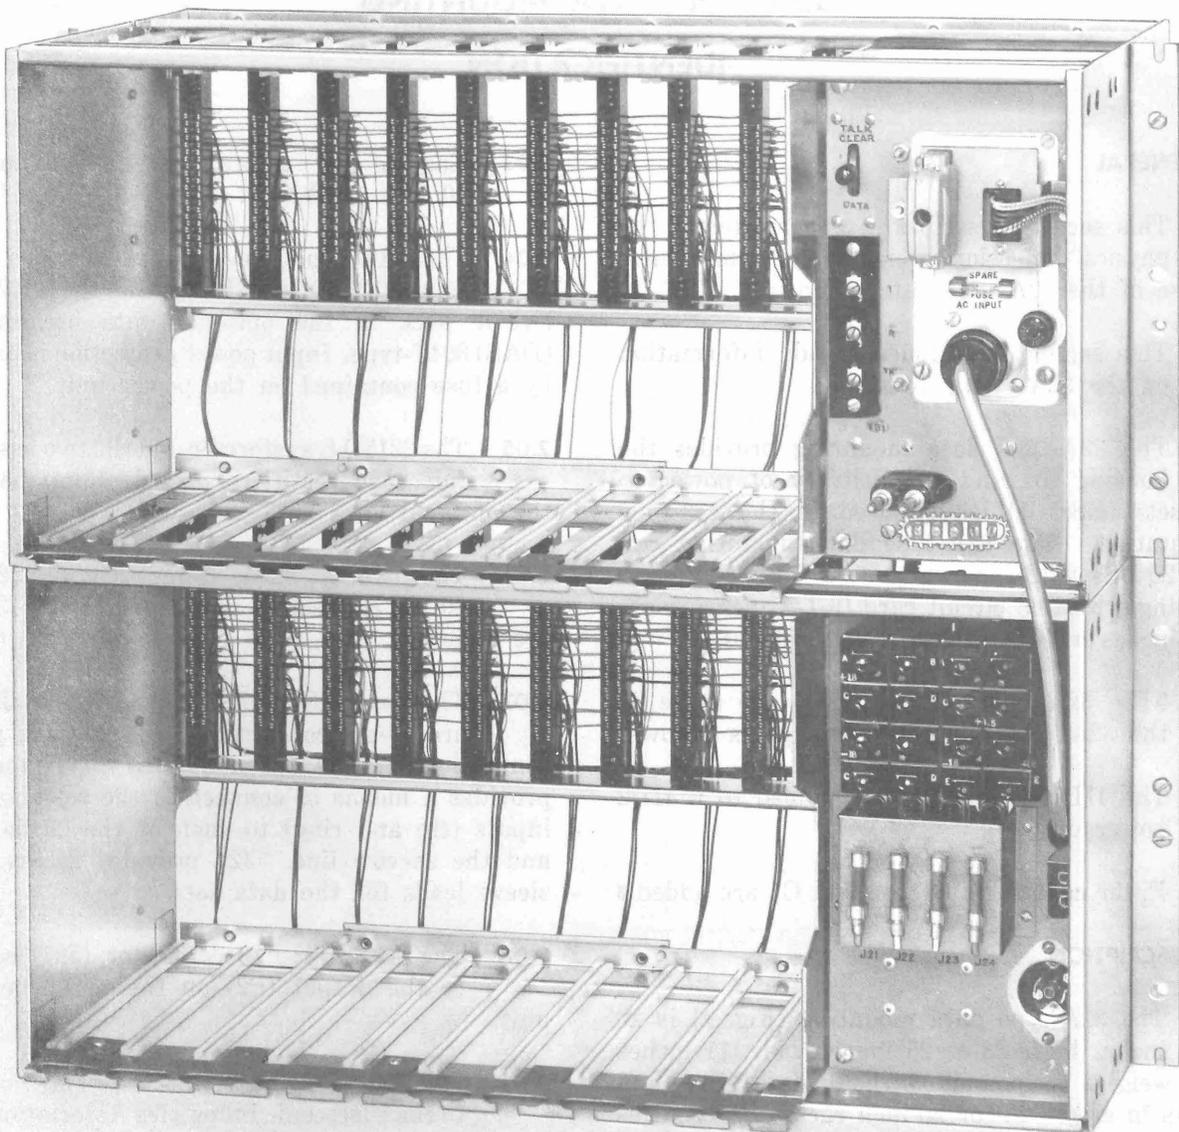

Fig. 1—32A-Type Data Mounting
**2.01** The 32A-type data mounting (Fig. 1) is 20 inches high, 23 or 25 inches wide, 11 inches deep, weighs 45 pounds without data sets, and mounts in either 23- or 25-inch racks. It requires 125 watts of power at 105 to 130 volts and 57 to 63 Hz.